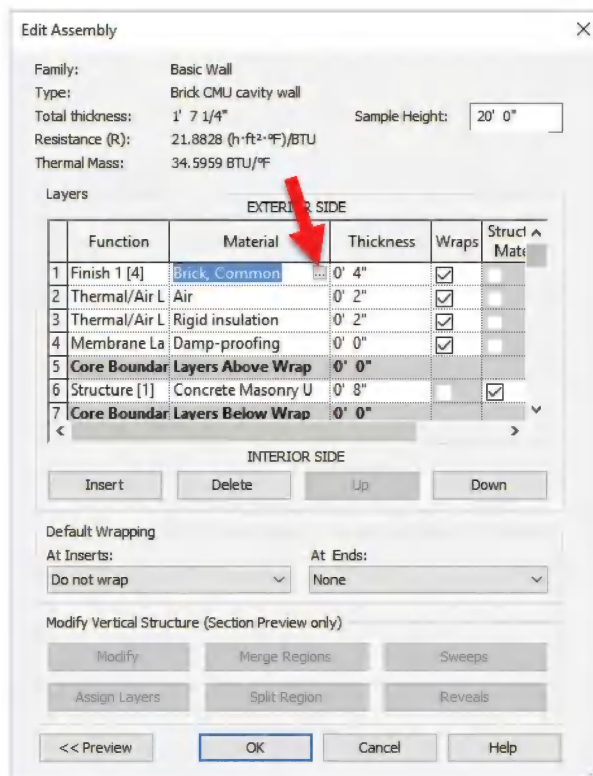

FIGURE 13-2.5 Exterior wall assembly
12. Notice the material selected for the exterior finish is **Brick, Common**; click in that cell (Figure 13-2.5).